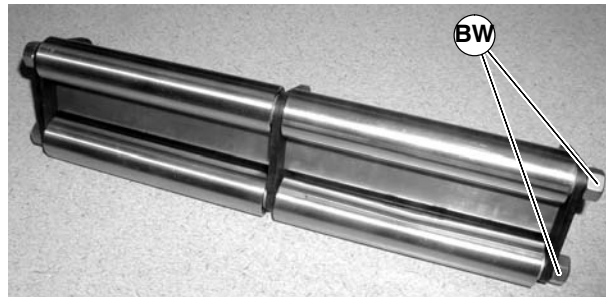

Figure 58
5. Remove hex nuts (BW of Figure 58).